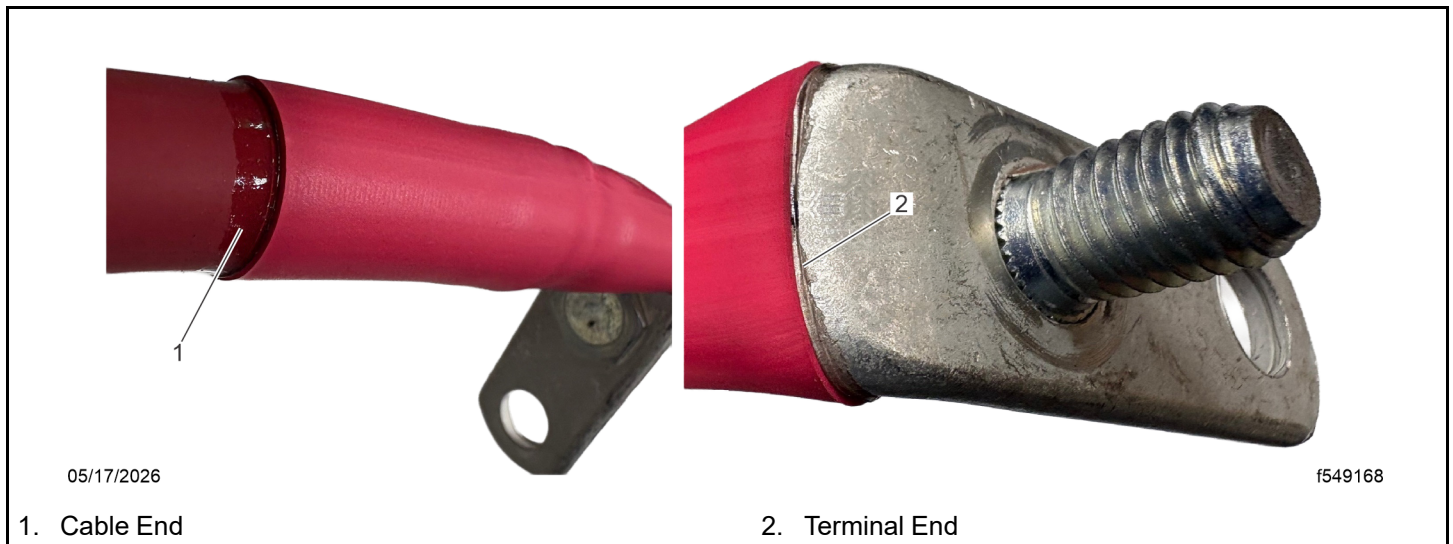

Fig 15, Continuous Adhesive Seal at Cable and Terminal Ends
- c. Confirm a continuous ring of adhesive can be seen around the circumference of the sleeve at both ends. See Fig. Fig. 15.